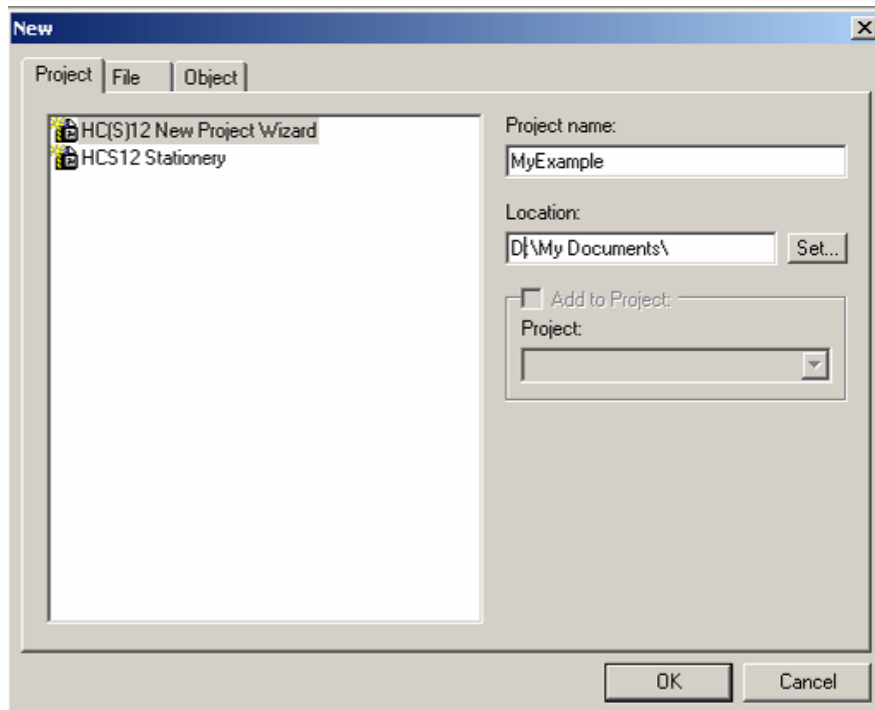

Figure 9. CodeWarrior New Project Window
- 2) From the IDE main menu bar, select: File > New; a new window will appear as seen in Figure 9.